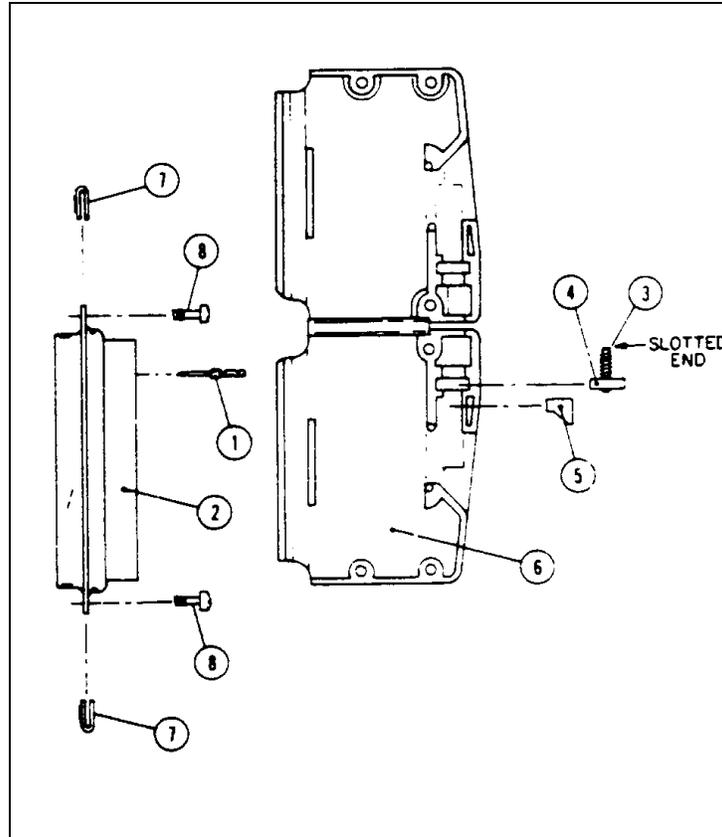

Figure A-1. Mating Connector Assembly
The following instructions describe assembly of the mating connector provided to interface the user's system with the option connector, J3. Figure A-1 identifies the parts of the mating connector.
- c. Insert each wire into a contact pin (1) and crimp firmly.
- d. Insert each pin into a proper hole in connector-pin house (2) from rear. Pins will lock into housing when fully inserted.
- e. Screw a slotted setscrew (3) partially into a square nut (4) and place in position in connector shield assembly (6).
- f. Place strain relief (5) in position in connector shield assembly (6), just under set screw (3). Be certain that strain relief is oriented as shown in Figure A-1.
- g. Place connector pin housing (2) in shield assembly (6) and route cable through cable entrance.
- h. Fold connector assembly (6) and secure with three screws.
- i. Strain relief set screw (3) can now be adjusted from top of connector to clamp firmly on cable.
- j. Clip fasteners (7) onto ends of connector pin housing (2).
- k. Connector can now be plugged onto option connector J3 and secured with two screws (8) into the threaded stand-offs on either side of J3.